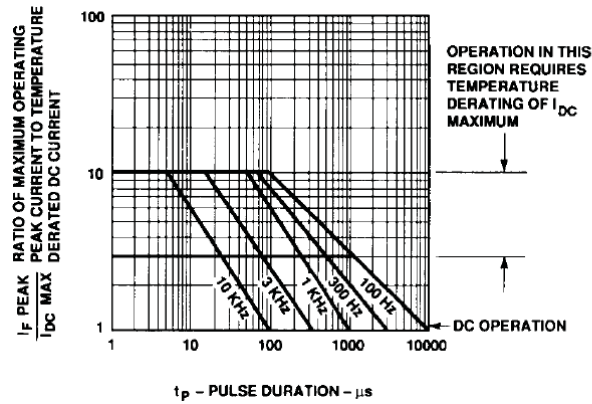

Figure 6. Maximum Tolerable Peak Current vs. Pulse Duration – HER, Orange.
- See Figure 6 to establish pulsed conditions.